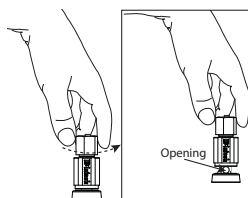

Figure 3— Opening Input Terminal
- Rotate the end of the Input Terminal Post counterclockwise until an opening appears. Refer to *Figure 3*.
Terminal. Refer to *Figure 3* again.